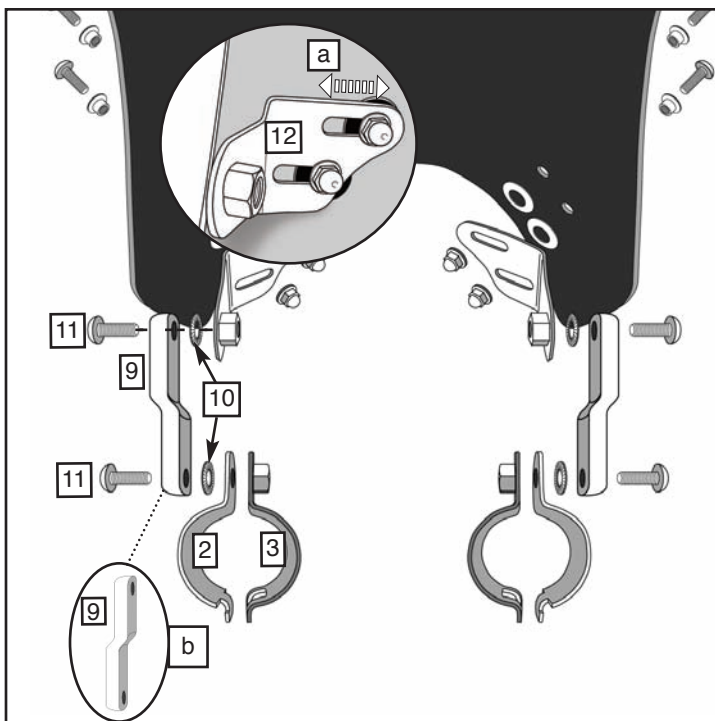

Figure 5
10. Install the Left Offset Bracket (9) to the Inner Bracket (12) with 1, Serrated Washer (10) and Screw (11). **Figure 5**
13. Hold Inner Clamp (3) to inside of fork tube, hook Outer Clamp (2) to the Inner Clamp. **Figure 5 and 6**
14. Secure Clamp Assemblies to the Offset Brackets (9) with remaining M8 Screws (11) and Washers (10). **(6mm Hex Wrench) Figure 5 and 6.**